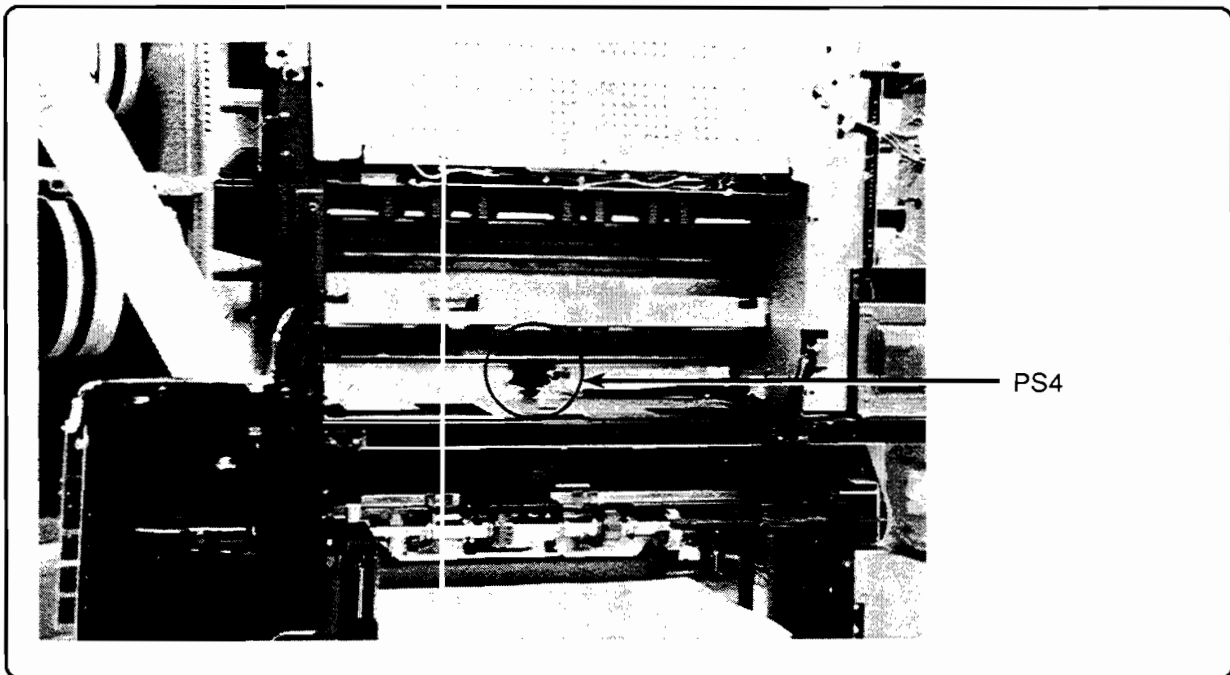

Figure 4-7. Engine PS4 Location
3. Blow out Engine-PS4 with compressed air ("P" & "D" model only). Engine-PS4 is located behind the lower cassette holder (Figure 4-7).